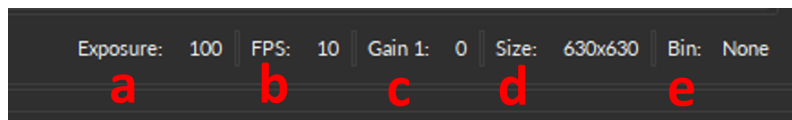

Figure 7.38: Microscope Monitoring Bar
2. The **Microscope Monitoring Bar** (Fig. 7.38) displays the parameters currently being used during the recording:
- The **Exposure** (Fig. 7.38, a) displays the value specified in Section 7.3.4, no. 1.
- The **FPS** (Fig. 7.38, b) displays the number of frames per second of the device. The maximum attainable frame rate in frames per second (fps) cannot surpass 1 divided by the exposure time in seconds. Thus increasing or decreasing the exposure in Section 7.3.4, no. 1 will change the **FPS**.
- The **Gain** (Fig. 7.38, c) displays the value specified in Section 7.3.4, no. 3.
- The **Size** (Fig. 7.38, d) displays the image resolution. If the image is **Cropped** (Section 7.3.4, no. 5), this value will be automatically updated.
- The **Bin** (Fig. 7.38, e) displays the value (none, 2x2 or 4x4) specified in Section 7.3.4, no. 6.